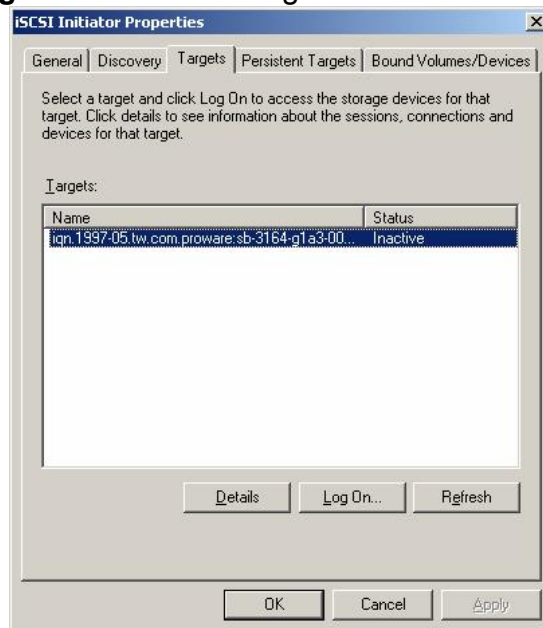

Figure D.4
- Click **“Targets”**. Please see Figure D.4.